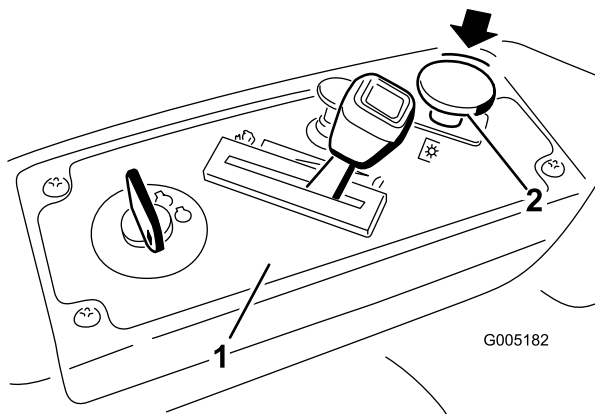

Figure 8
2. Disengage the blades by moving the blade control switch to Off (Figure 8).
1. Disengage the blades by moving the blade control switch to Off (Figure 8).